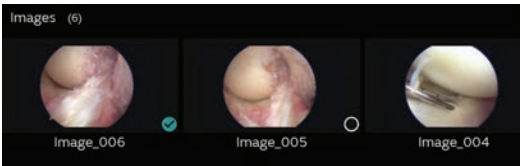

Figure 55. Circle with a Check Mark
- 2. Tap the media object(s), a circle with a check mark displays in the lower right corner of an Individual, or multiple images (Figure 55).